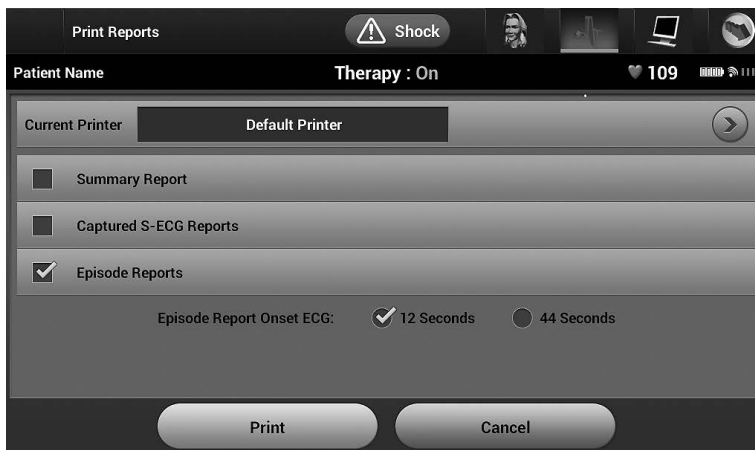

Figure 16: Print Reports screen
2. Select the Print Reports button to display the Print Reports screen (Figure 16 on page 40).